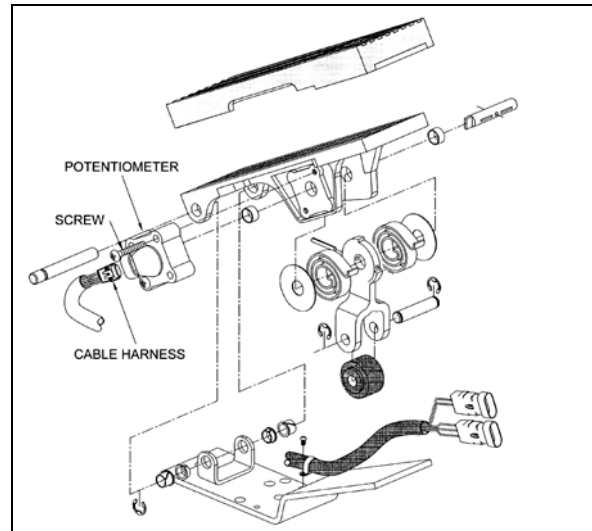

FIGURE 22: ELECTRONIC FOOT PEDAL ASSEMBLY03035
3. Discard potentiometer (Figure 22).
2. Position new potentiometer. Press potentiometer onto the potentiometer shaft, matching cutouts in shaft to drive tangs of potentiometer. Apply hand pressure until potentiometer has bottomed out in housing. Reinstall screws (Figure 22) and tighten just enough to secure potentiometer lightly. Tighten screws to 10 - 20 Lbf-in (1.13 - 2.26 Nm).